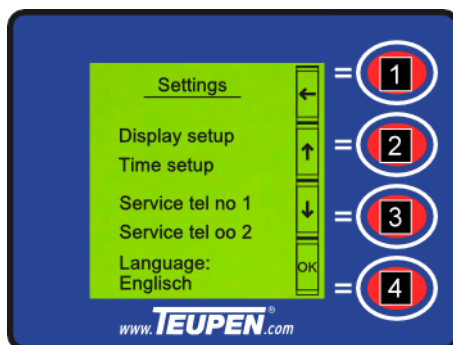

Fig. 75: Setting the language
1. Use the [function keys] (Fig. 75/2 and 3) to select the language.
2. Press the [function key] (Fig. 75/4).
3. Use the [function keys] (Fig. 75/2 and 3) to select the desired language.
4. Use the [function key] (Fig. 75/4) to confirm the selected language.